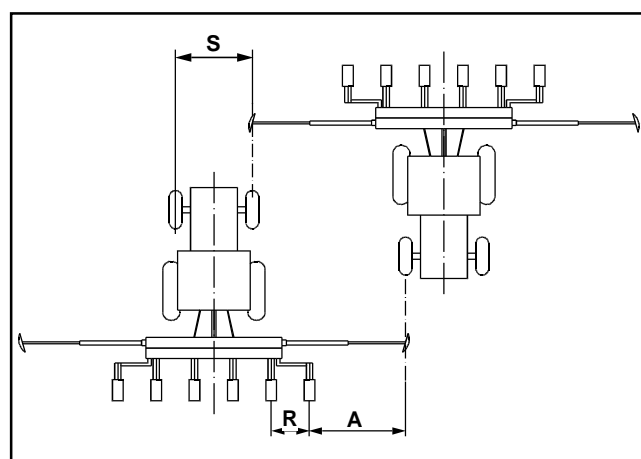

Fig. 6.12
6.2.4.2 Measured from outer coulter (Fig. 6.12)